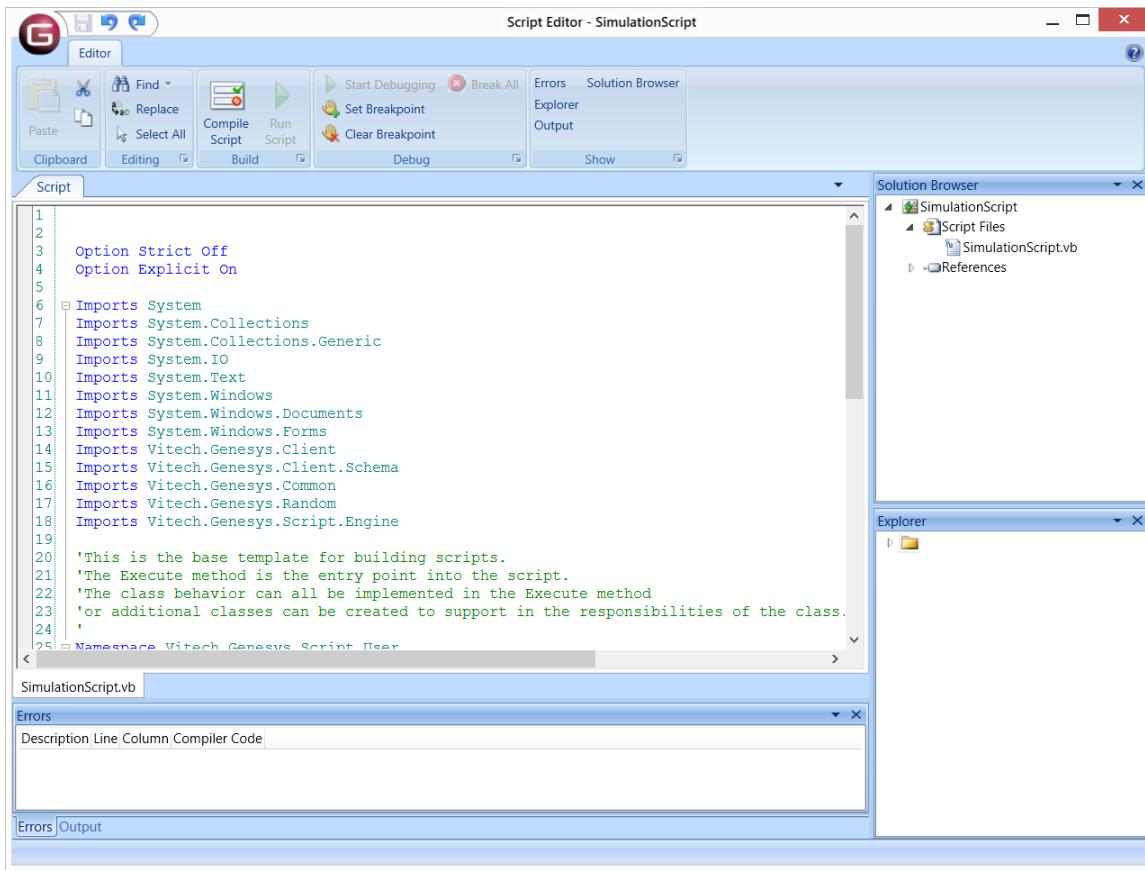

Figure 17 Script Editor Window
- Select the Script option to create a Microsoft Visual Basic script to determine the attribute value. The Script Editor Window as shown in Figure 17. GENESYS will execute the script at the start of each execution of the **Function** once the necessary **Resources** have been acquired and triggers processed. More information on scripting is provided in Section 6.
The script is entered/modified by clicking the **Edit** button next to the attribute in the **Properties** window. The **Edit** button opens a Script Editor window (Figure 17) where the script is built using Microsoft Visual Basic and the GENESYS API.